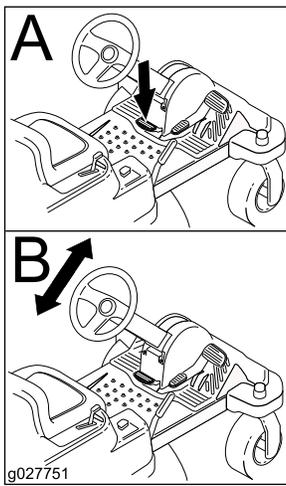

Figure 16
- Position the steering wheel to the desired position (Figure 16).